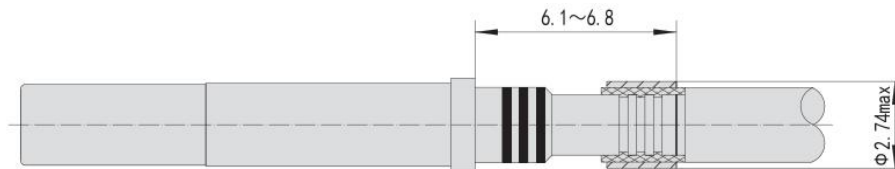

Figure 1.14
⑦ Place the shielded crimp sleeve forward on the cable shielding layer according to Figure 1.14, the position size is 6.1~6.8, cut off the excess shielding layer beyond the shielded compression sheath, and use the crimp tool-- M22520 / 4-01 and M22520 / 4-02 positioner to crimp: crimp once, and rotate the contact parts 45 degrees to crimp again. After the second crimp, the diameter of the shield sleeve must not be greater than 2.74.